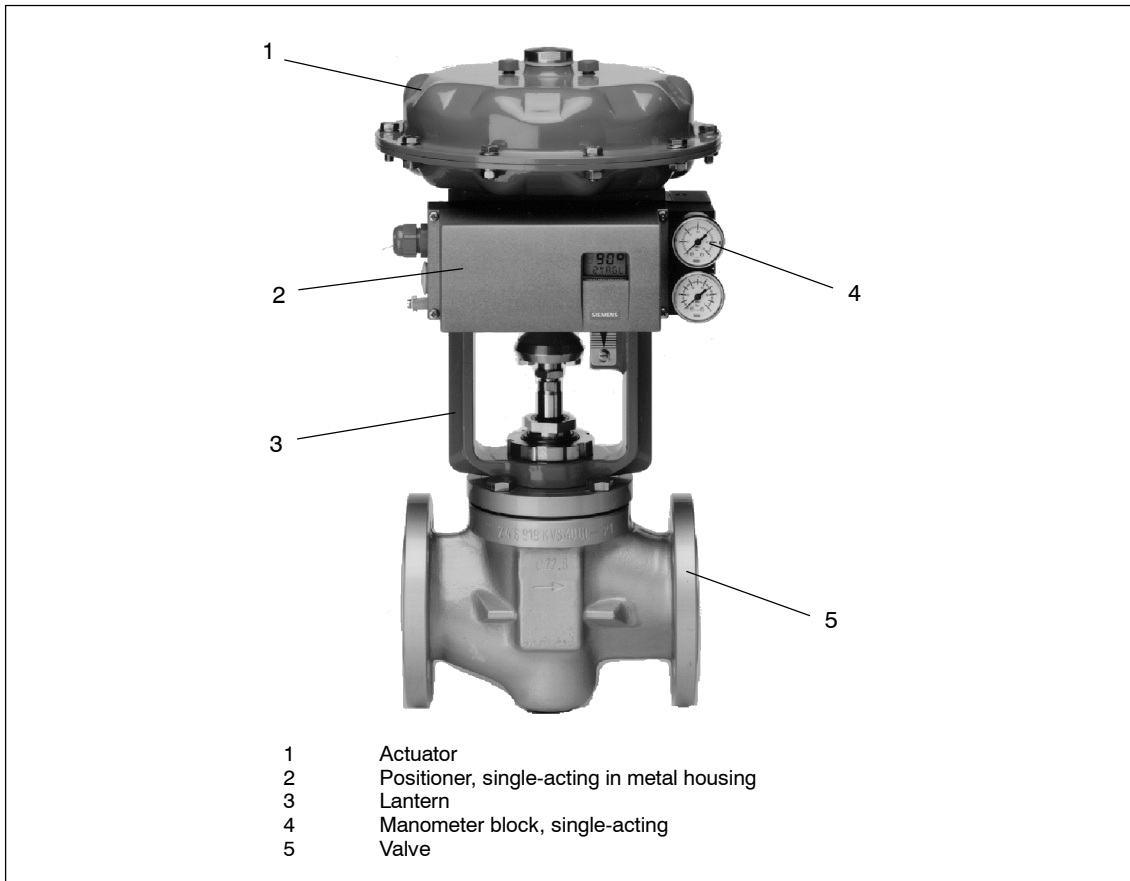

Figure 1-1 Positioner mounted on **linear actuator** (single-acting)
- with linear actuator (figure 1-1, page 13) or